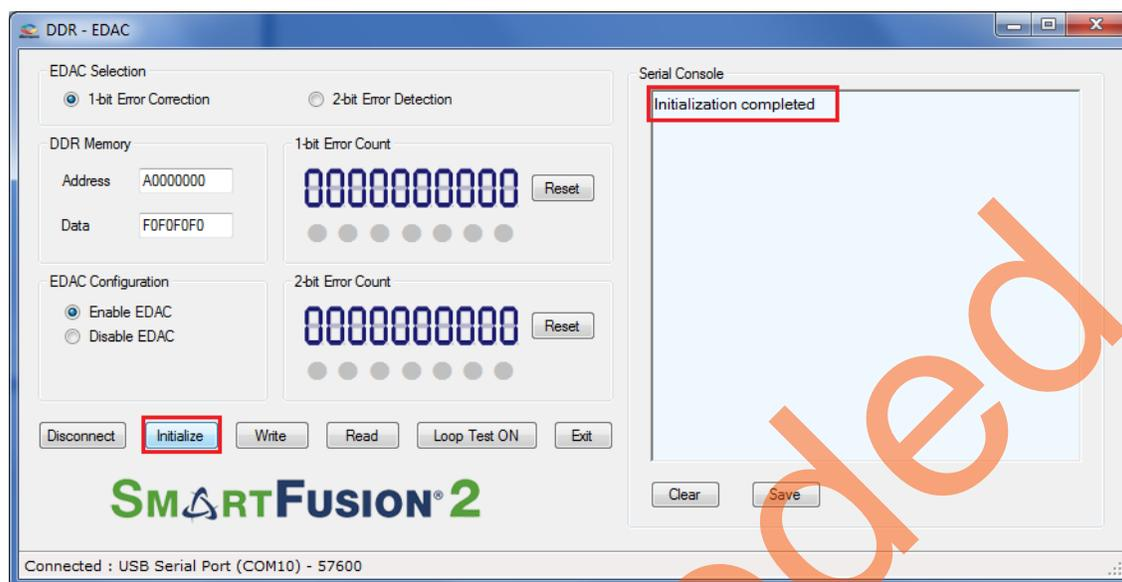

Figure 8 • Initialization Completed Window
4. Launch the **EDAC_DDR Demo** GUI executable file available in the design files (`\GUI Executable\ EDAC_DDR.exe`). The GUI window is displayed, as shown in Figure 8 on page 14.
- Click **Initialize** to initialize the DDR memory to perform the Manual and Loop tests, an **initialization completion** message is displayed on Serial Console, as shown in Figure 8.